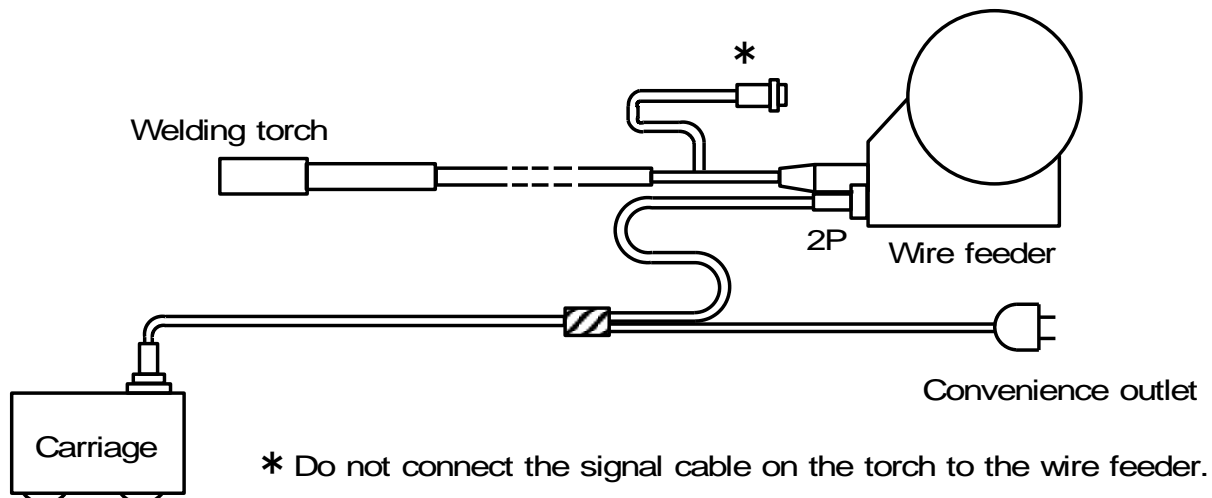

Fig.6 System connection diagram
Conduct welding in the following manner, while referring to the Fig. 6 “System connection diagram” and the operation procedure in item 5.1.